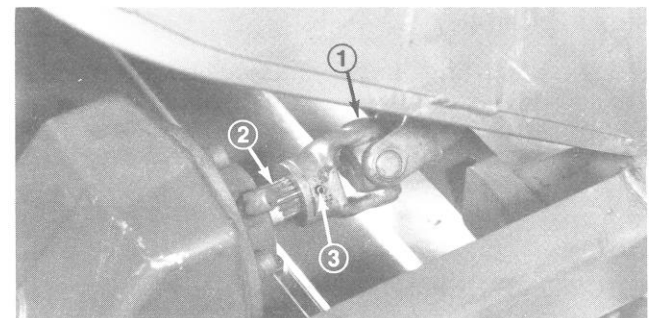

Figure 10
3. Lower frame, align PTO shaft hole with gearcase input shaft hole and install roll pin (Fig. 10).